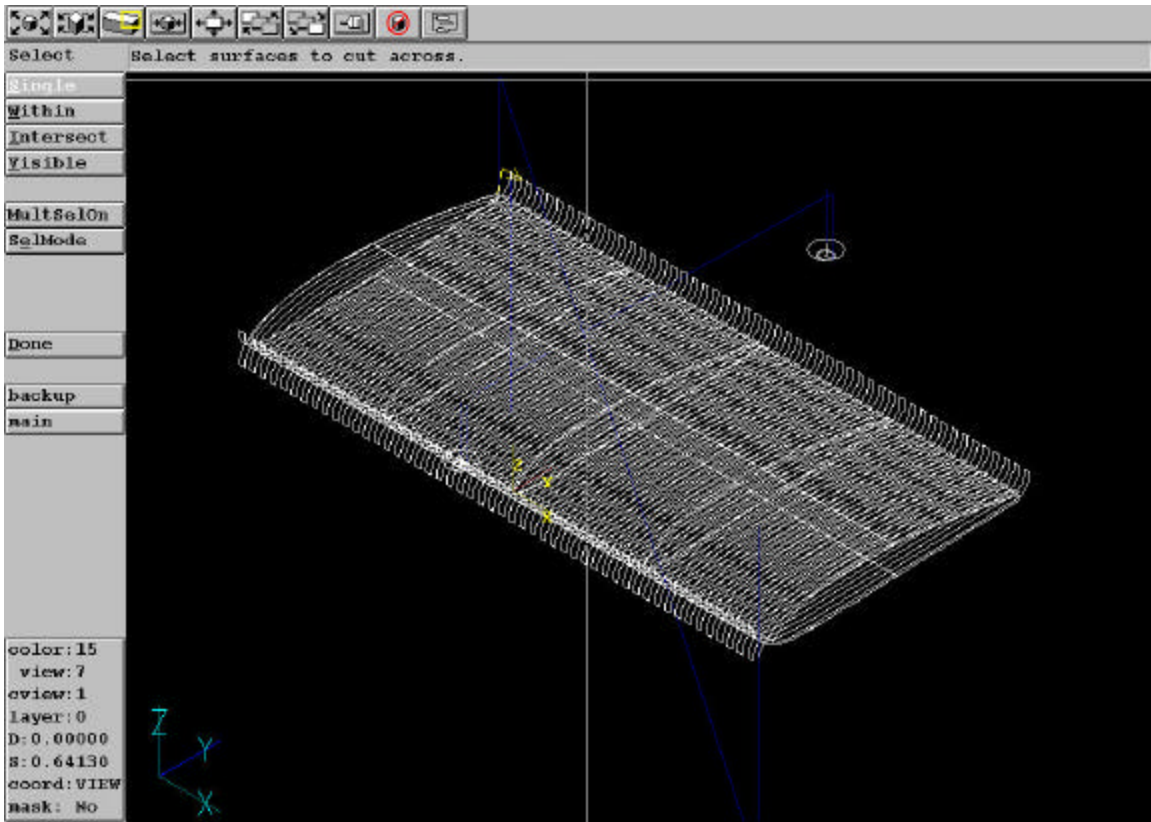

Figure 19: Final tool paths on wing
- 6.) From this point, the same procedure will be used to generate the tool paths on the lower surface of the wing as were used on the upper surface of the wing. Refer to the previous procedure to create these tool paths. Figure 19 shows the final wing with both the top and bottom tool paths in place, and the view changed back to 7.) Isometric.